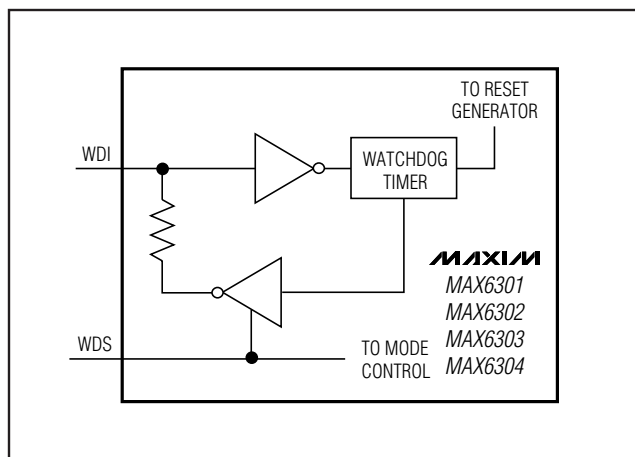

Figure 8. Watchdog Input Structure
**Note 4:** The sink/source is supplied through a resistor, and is proportional to  $V_{CC}$  (Figure 8). At  $V_{CC} = 2V$ , it is typically  $\pm 24\mu A$ .
In extended mode ( $\text{WDS} = V_{CC}$ ), the WDI input is internally driven through a buffer and series resistor from the watchdog counter (Figure 8). When WDI is left unconnected, the watchdog timer is serviced within the watchdog timeout period by a very brief low-high-low pulse from the counter chain. For minimum watchdog input current (minimum overall power consumption), leave WDI low for the majority of the watchdog timeout period, pulsing it low-high-low ( $> 30\text{ns}$ ) once within the period to reset the watchdog timer. If instead WDI is externally driven high for the majority of the timeout period, typically 70 $\mu$ A can flow into WDI.